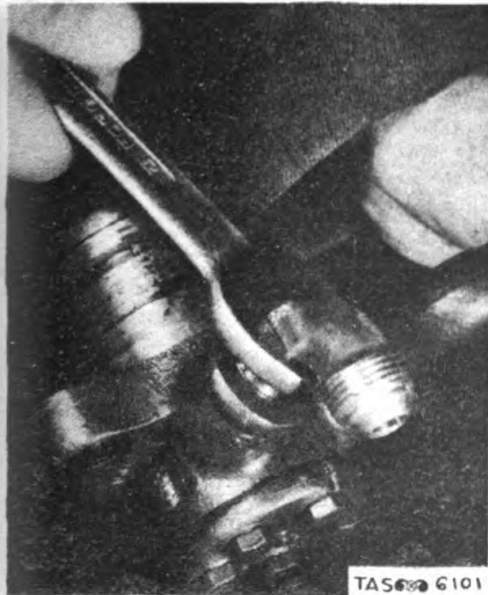

Fig. 101. Removing 3/8-Inch Street Elbow from Top of Pump Assembly.
5. Remove 3/8" street elbow from top of pump assembly. (See fig. 101.)